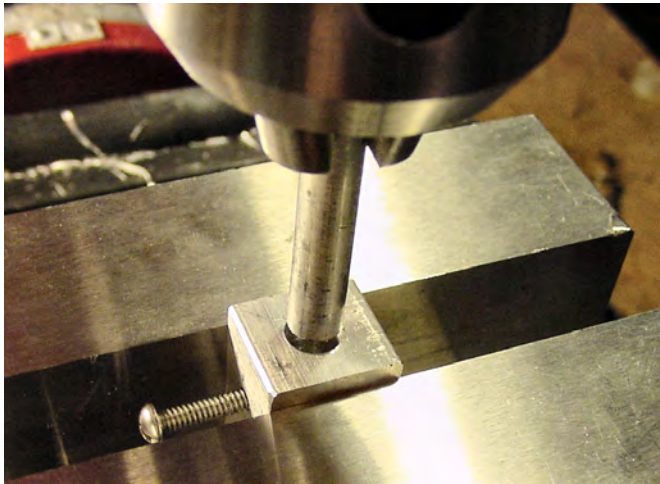

Figure 3-20. Recentering the fixture in the vise by inserting a round rod instead of a drill into the chuck
When installed in the vise, a short side of the fixture is going to be on top. Peek ahead to Figures 3-20 and 3-22 to see how the coupler fixture will be situated in the vise during use. Notice that a long side has the setscrew coming out parallel to the vise jaws so the setscrew can be loosened and tightened with the fixture in place in the vise. To make the following instructions more understandable, pay attention to the location of the setscrew in those figures:
3. Position the table or vise so you can plunge the round rod (see Figure 3-20) into the coupler fixture hole. It may take a couple of tries and some adjusting.